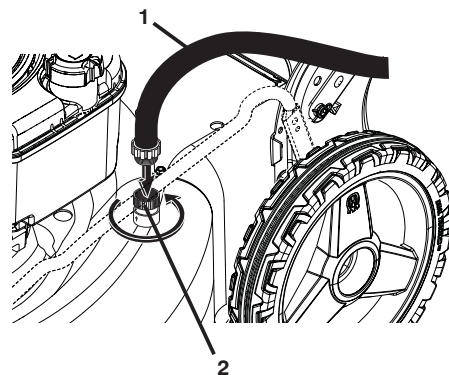

Figure 25
4. Connect a garden hose to the fitting where shown (Figure 25).